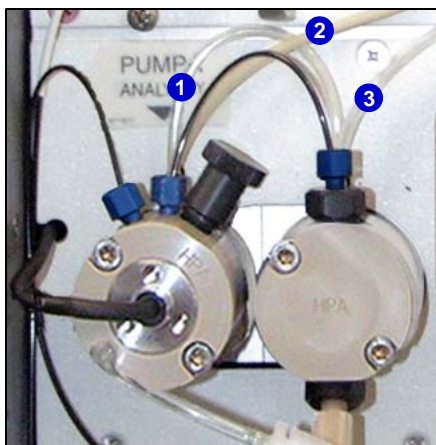
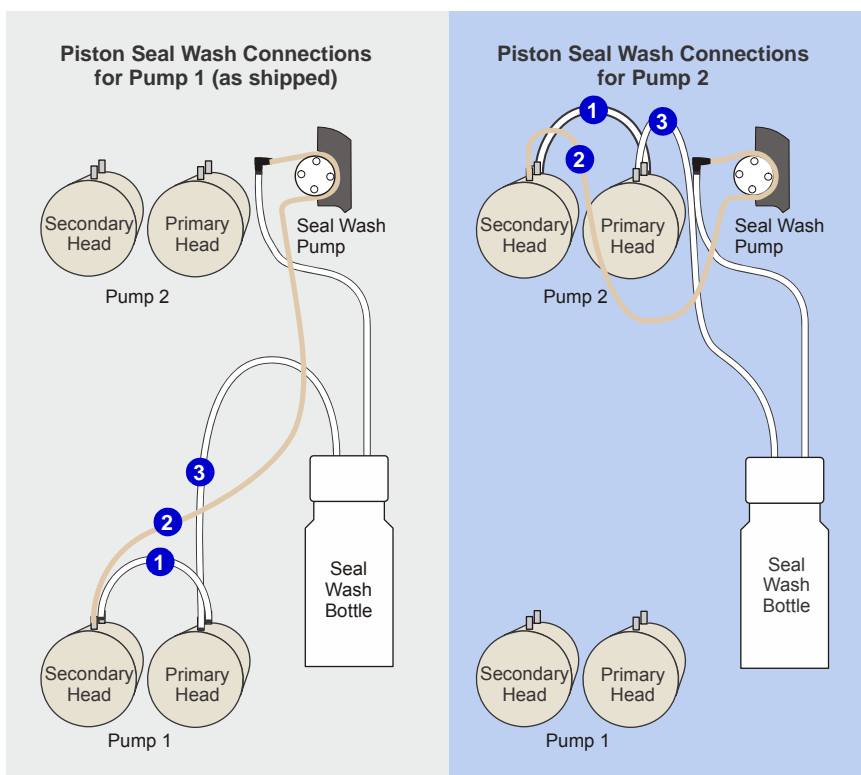

Figure A-4. Piston Seal Wash Connections to Pump 1
Figure A-5. DP Piston Seal Wash Connections (Pump 1 or Pump 2)
1. To connect the seal wash system to pump 2, disconnect three piston seal wash lines from pump 1 (see Figure A-4) and reconnect the lines to their respective locations on pump 2 (see Figure A-5).